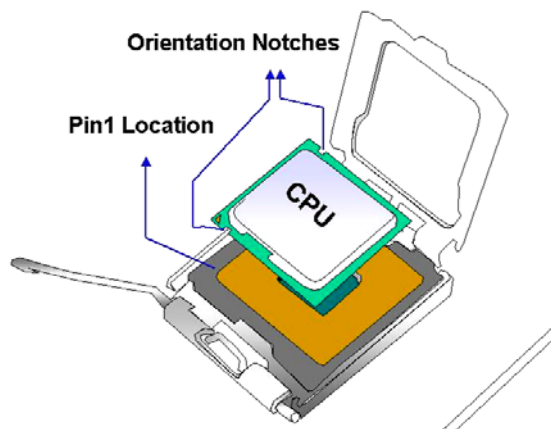

Figure 5-4: Insert the LGA775 CPU
- Step 7:** Insert the CPU. Gently insert the CPU into the socket. If the CPU pins are properly aligned, the CPU should slide into the CPU socket smoothly. See **Figure 5-4**.